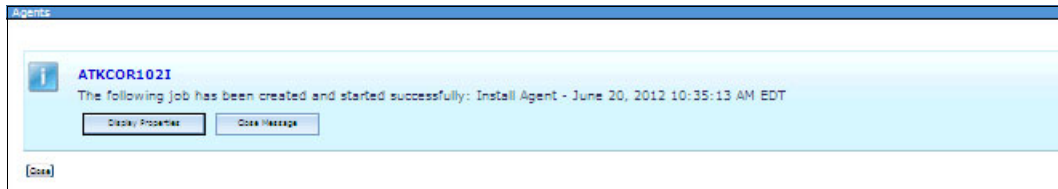

Figure 9-39 Display Properties window
9. Click **Display Properties** as shown in Figure 9-39 to check the job status and wait until status is complete.